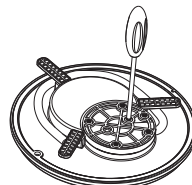

Figure 4
- 4) When filled with Lanolin , tighten remaining 2 screws and leave to set whilst installing the retro bracket to the pool wall. When bracket installed fix the pool light to bracket. (Figure 4)